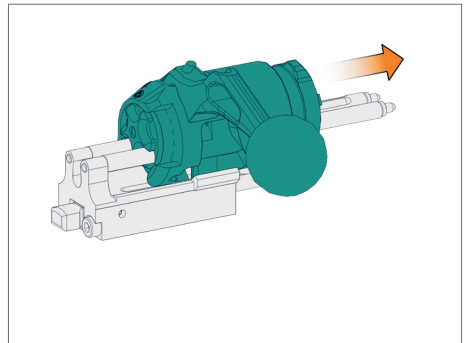

Fig. 8
- Pull the bolt out of the bolt guide (Fig. 8).